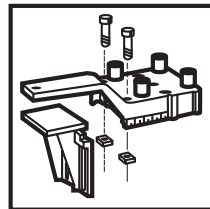

Figure 7
7. Attach the angle piece to the dowel jig using the screws and square nuts. Insert the screws through the two holes on the top of the jig and attach the square nuts to the bottom. Do not tighten. Slide the angle piece into the slot between the bottom of the jig and the square nut. Keep the angle piece slightly loose. See Figure 7.